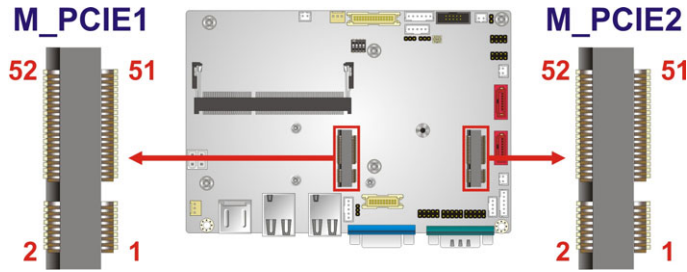

Figure 3-13: PCIe Mini Card Slot Locations
- CN Location:** See **Figure 3-13**